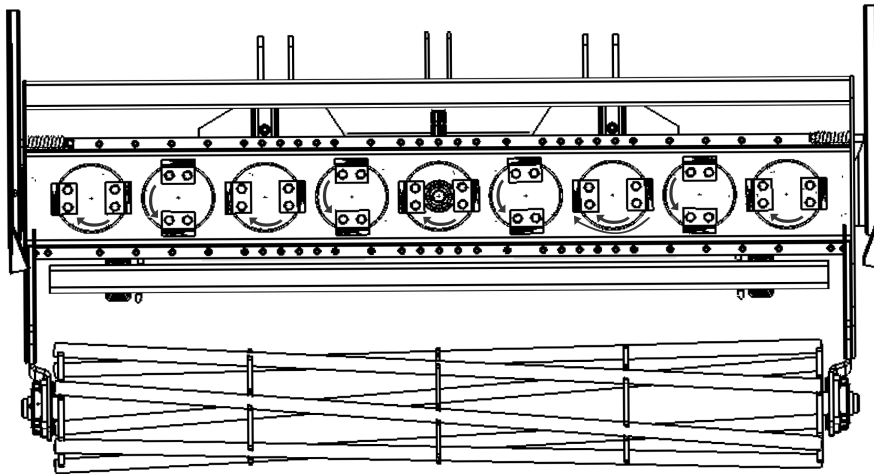

FIG. 2
- Fit the tines in the correct order (see Fig. 2).